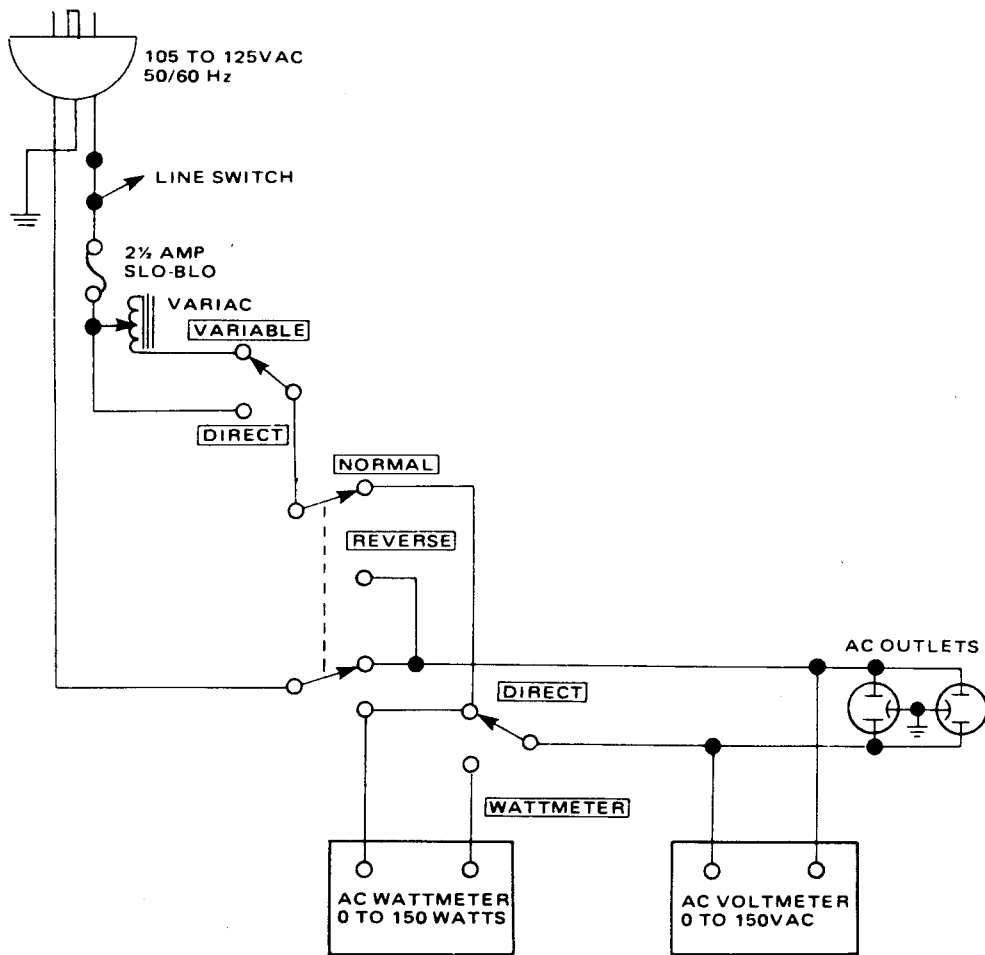
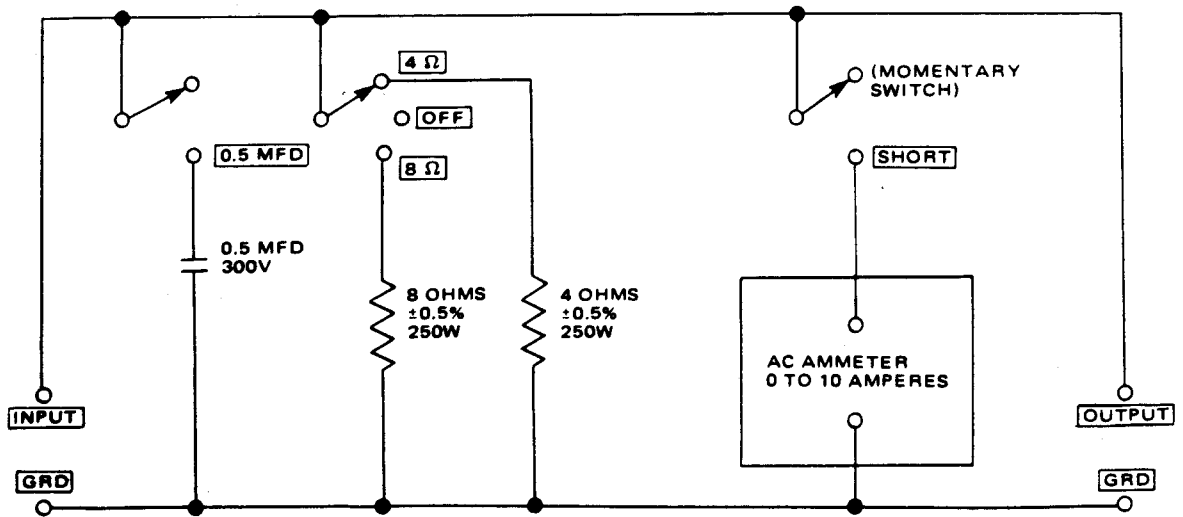

Figure 1. AC Power Control Box Simplified Schematic
Figure 2. Amplifier Output Load Box Simplified Schematic
Table 1 lists the test equipment required for servicing the Model PM350 Stereo Console Amplifier. The wattmeter, AC voltmeter, and variable autotransformer may be assembled as a test fixture as shown schematically in Figure 1. The load resistors and AC ammeter may be assembled into a second test fixture as shown in Figure 2.
1. Make the test setup shown in Figure 1 with the instrument controls set in the following positions: